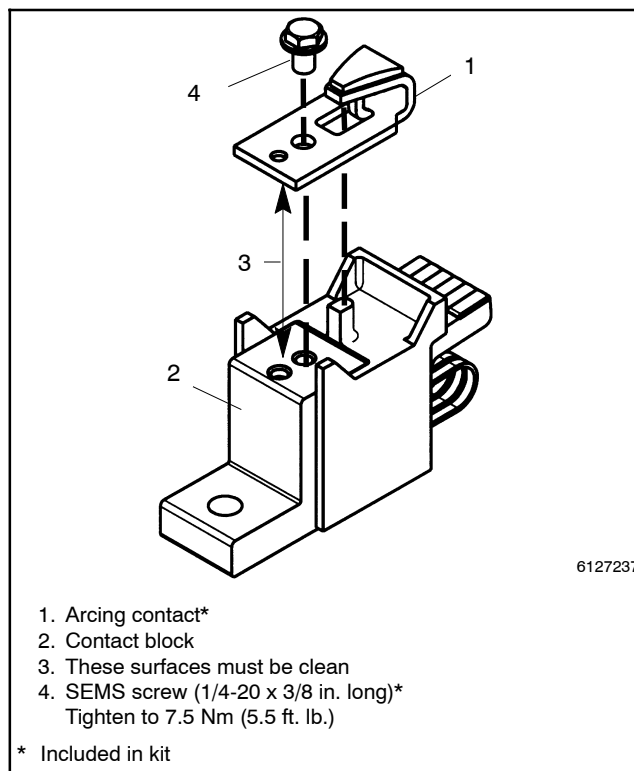

Figure 8-15 Stationary Arcing Contact
2. Remove the stationary arcing contact. Use a 3/8 in. socket wrench to remove the hex head (SEMS) screw, then remove the stationary arcing contact. See Figure 8-15.
3. Install the new stationary arcing contact. Make sure the arcing contact and contact block surfaces are clean (do not use any abrasive). Use a 3/8 in. socket wrench to install a new hex head screw (SEMS 1/4-20 x 3/8 in. long) and a new stationary arcing contact onto the contact block. The rectangular protrusion should align with the rectangular hole in the arcing contact. Tighten the screw to 7.5 Nm (5.5 ft. lb.). See Figure 8-15.